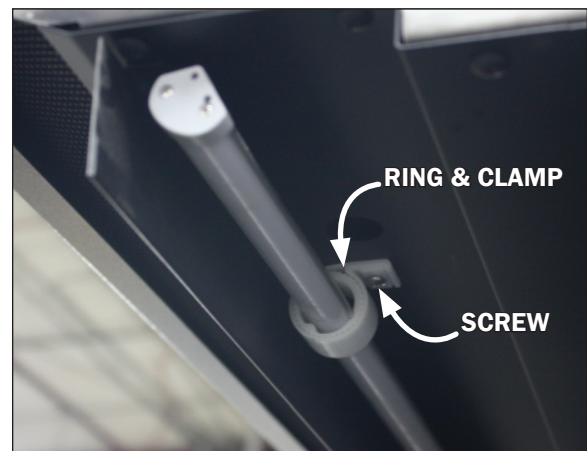

Fig. 10 LED light & ring/clamp
2. Remove the screws from the light clamps (Fig. 10) while keeping ahold of the light. Once the screws are removed the light rod will come away from the case with the clamps still holding to the light.